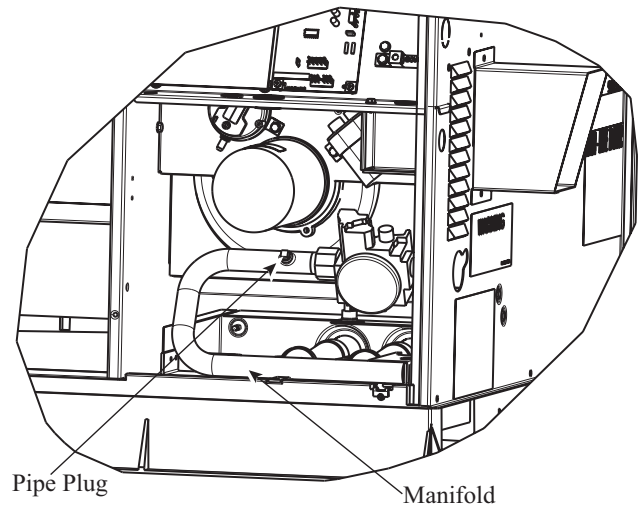

Fig. 13 – Burner Assembly
2. Remove pipe plug on manifold (See Fig. 13) and connect manometer. Turn on gas supply to unit.
- Turn off gas supply to unit. Remove manometer from pressure tap and replace pipe plug on gas valve. (See Fig. 13.) Turn on gas to unit and check for leaks.